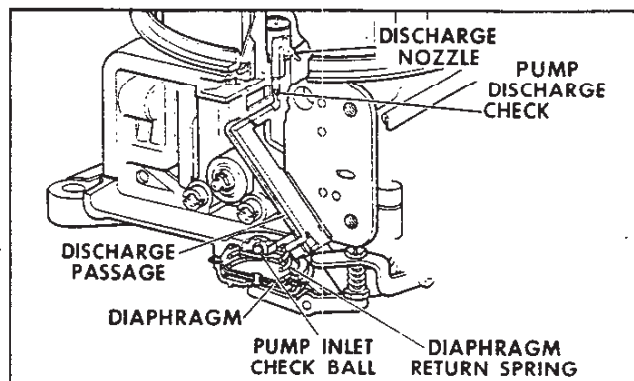

Fig. 4—Accelerator Pump System
3. The Accelerating Pump System (fig. 4) has a diaphragm type pump (located on the bottom of the primary float chamber), an inlet check ball (held in place by a brass pin swedged into the casting), and a discharge needle check valve under the pump nozzle in the venturi area. The pump is lever actuated by a cam on the throttle shaft. A spring loaded screw between pump link and actuating lever provides pump duration.